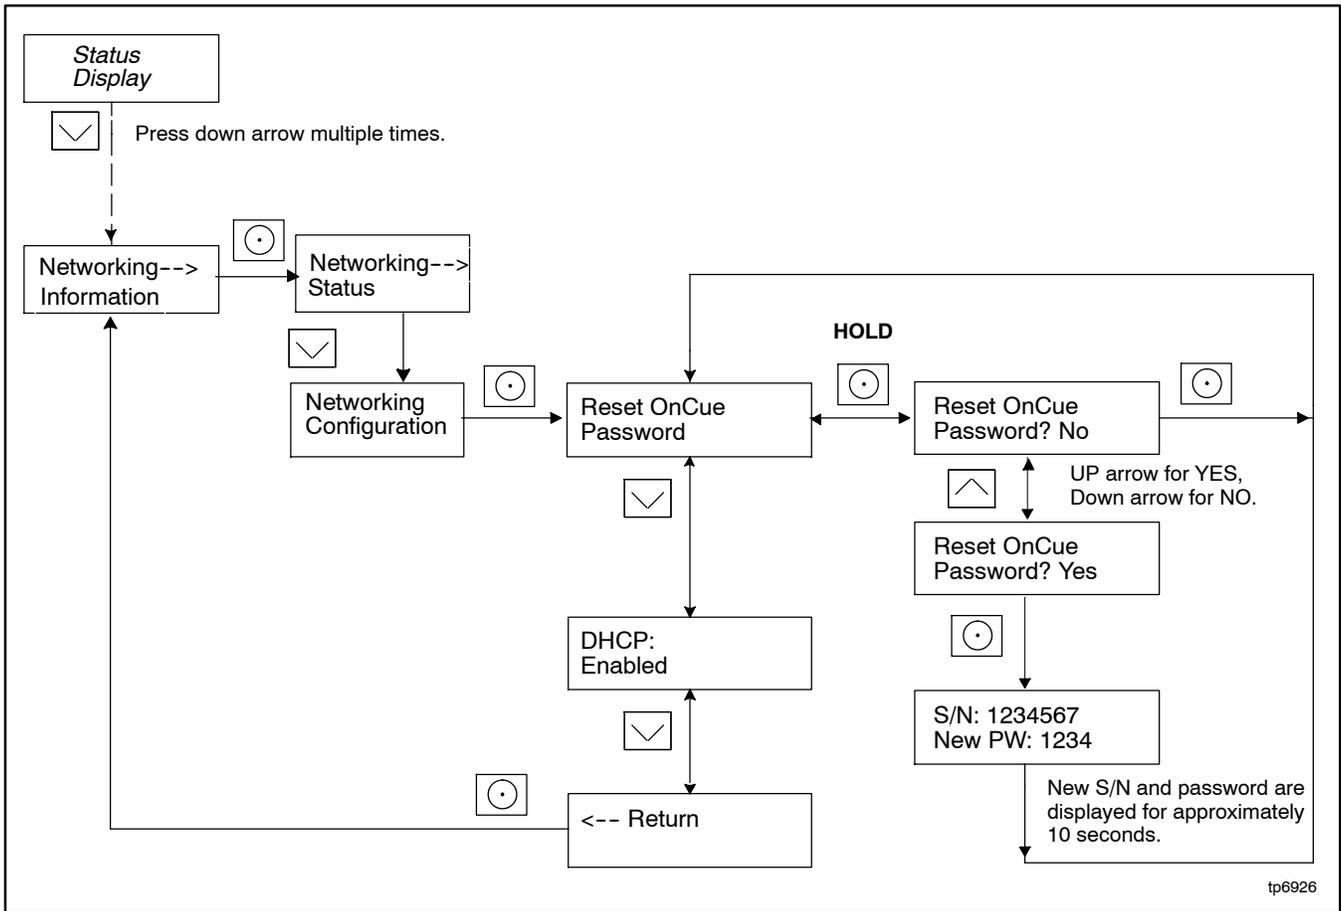

Figure 1-7 Finding the Serial Number and Password, RDC2 and VSC Controllers
2. Follow the reset password procedure shown in Figure 1-7. See the generator set operation manual for more information, if necessary.